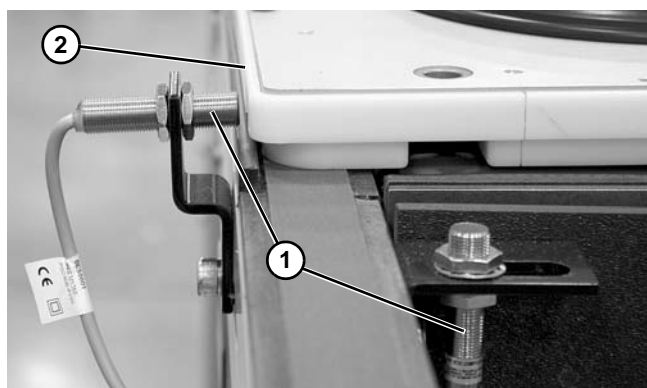

Figure 13
4. Adjust sensors (**Figure 13, item 1**) in/out or up/down to maintain clearance between pallet (**Figure 13, item 2**) and sensor.